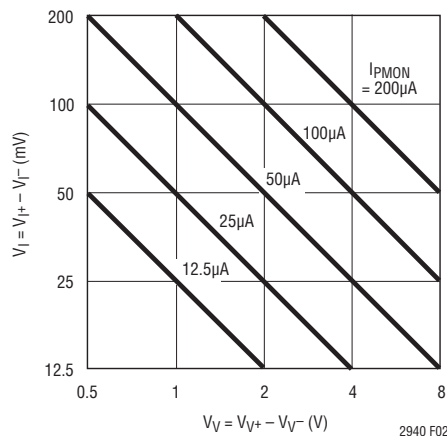
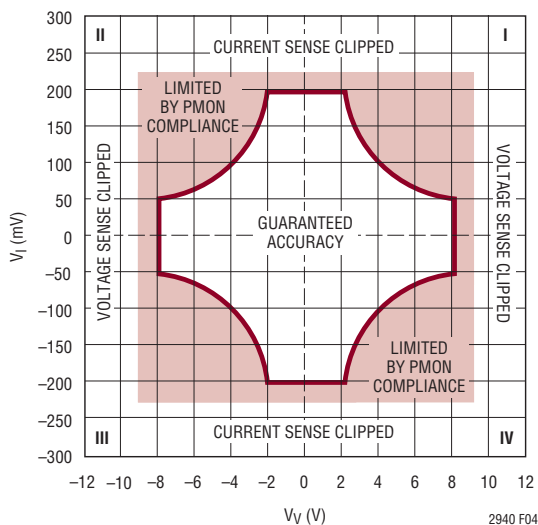
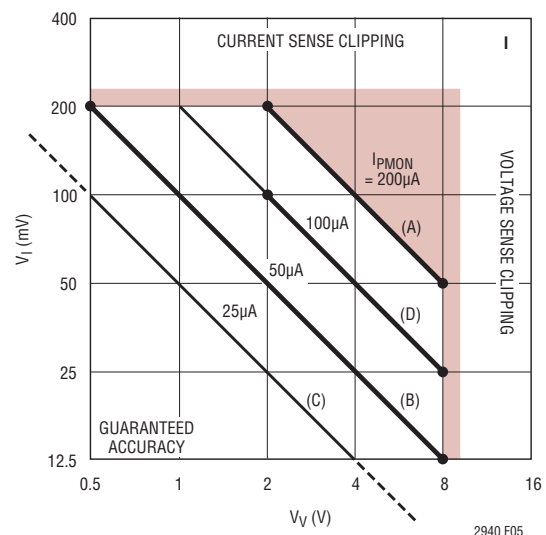

Figure 2. PMON Output Current as a Function of Sense Input Voltages
Figure 4. Multiplier Operating Regions vs Sense Input Voltages. Accuracy Is Derated in Shaded Areas
Figure 5. Various Constant-Power Curves in Quadrant I
The multiplier core full-scale product of  $\pm 0.4V^2$  may be reached over a range of voltage and current inputs, as shown in Figure 2. For example, voltage sense and current sense combinations of 8V and 50mV, 4V and 100mV, and 2V and 200mV each multiply to  $0.4V^2$ , and thus produce 200 $\mu A$  at PMON. This arrangement allows the core to operate at full-scale, and therefore at best accuracy, over a 4:1 range of current and voltage, a readily appreciated feature when monitoring power in variable supply applications.
The output current may be positive (sourcing) or negative (sinking) depending on the signs of  $V_{IN}$ ,  $k_V$ ,  $I_{IN}$ , and  $k_I$ . Provided that the magnitudes of  $V_V$  and  $V_I$  do not exceed 8V and 200mV as shown in Figure 2, at
The operating regions of the four-quadrant multiplier are illustrated in Figure 4. Note that while Figure 2's axes employed logarithmic (octave) scales to allow constant-power trajectories to be straight lines, Figure 4's axes are linear to better accommodate negative inputs. Constant-power trajectories are thus arcs.
Constant-power applications comprise power level alarm circuits, whether tripping a circuit breaker, activating auxiliary circuits, or simply raising an alarm, and single-level power servo loops. In such applications, accuracy is best when the full-scale output current of the LT2940 represents the power level of interest, i.e., the  $I_{PMON} = 200\mu A$  load line (A) on Figure 5. Spans of voltage or current up to 4:1 naturally fit into the operating range of the LT2940.
Special constant-power applications are the same types of circuits (level measuring, servos) with additional restrictions. If operating within the guaranteed accuracy region of Figure 4 is important over voltage or current spans wider than 4:1, let a PMON current less than full-scale represent the power level. For example, the load line (B) of  $I_{PMON} = 50\mu A$  in Figure 5 covers a span of 16:1 ( $V_V = 8V$  to  $0.5V$  and  $V_I = 200mV$  to  $12.5mV$ ). Note that operating along line (C),  $I_{PMON} = 25\mu A$  allows a span of 32:1, but the channel offsets reduce the value of doing so. Operating